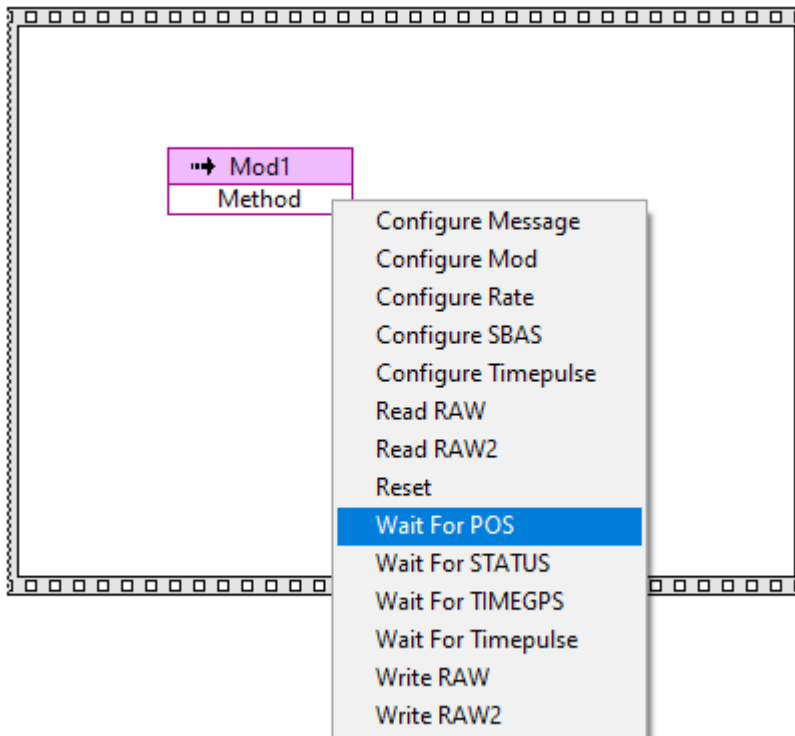

Fig. 6: Quick Start – Create method node
- Select the method *Wait For POS* (Fig. 6).